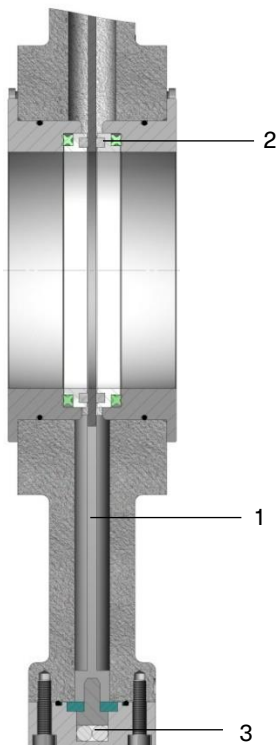

Fig. 7
- Valve gate (Fig. 7, Pos. 1), Seat ring with seal (2) and damping elements (3) have to be checked for possible damage.